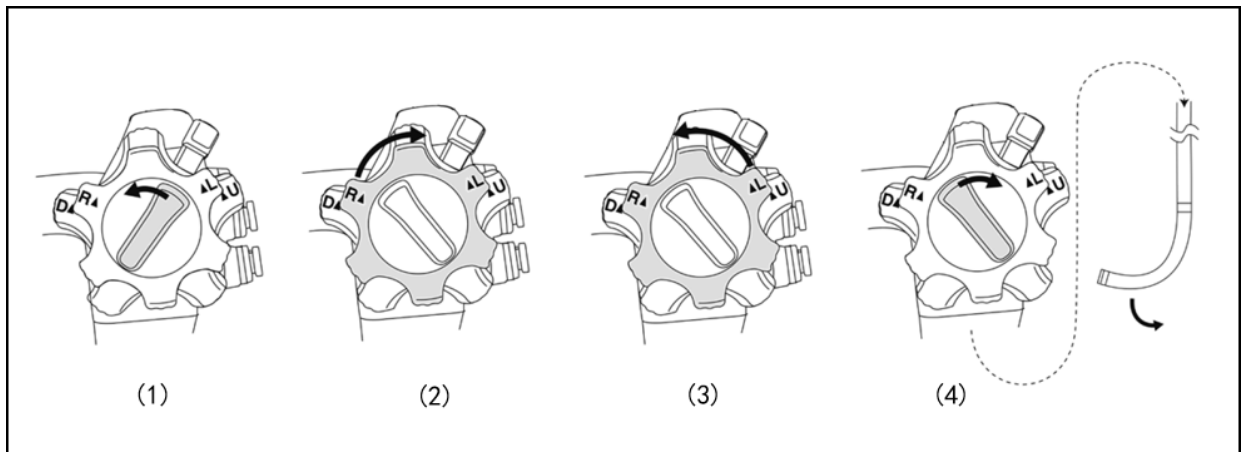

Figure 3.18
1. Rotate the left/right angle lock to the opposite direction of the marked “F ▶”. Rotate the left/right angle control knob to the full range of motion in the “R ▲” or “▲L” direction respectively, as shown in Figures 3.18(1), (2), and (3).
3. Loosen the angle control knob and rotate the left/right angle lock to the “F ▶” direction to confirm that the bending section is in a straight state, as shown in Figure 3.18(4).